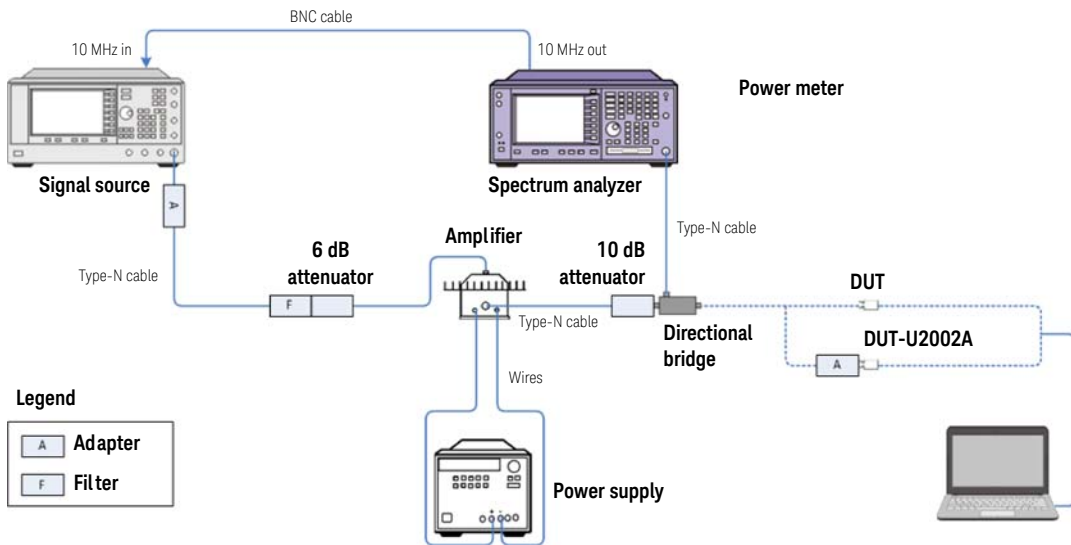
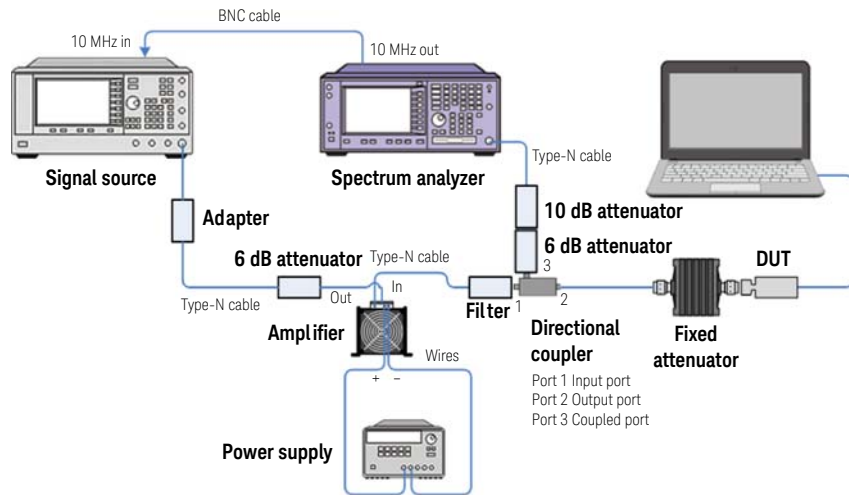
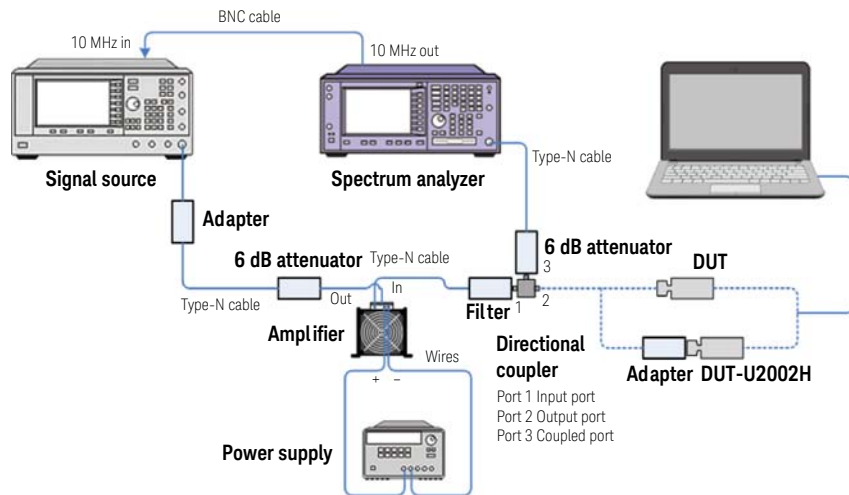

Figure 3-7 Sensor accuracy measurement setup for U200xA
Figure 3-8 Sensor accuracy measurement setup for U200xB
Figure 3-9 Sensor accuracy measurement setup for U200xH
- 4 Disconnect the standard power sensor from test port and connect the standard power sensor with the DUT. Connect the equipment as shown in Figure 3-7 (U200xA Series), Figure 3-8 (U200xB Series), and Figure 3-9 (U200xH Series) depending on sensor models before turning on the power supply output.